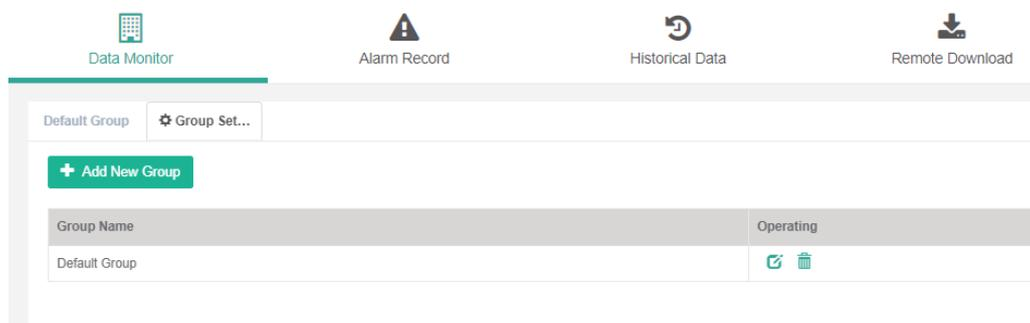

Figure 5-4
- 3) Select "Group settings", it will show group information as shown in Figure 5-4;